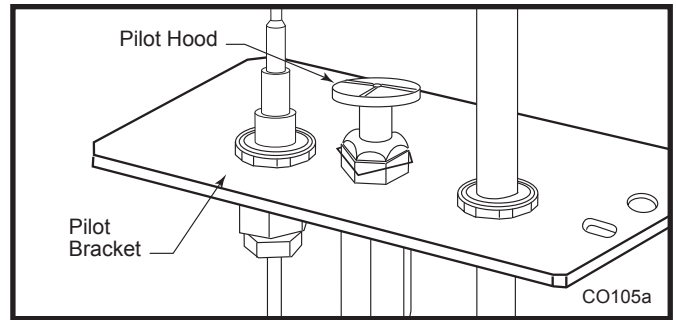

Fig. 57 Remove pilot hood.
16. Install the enclosed conversion label (F) to the valve body where it can easily be seen. (Fig. 57)
- Remove pilot hood by lifting up. (Fig. 57) Do not remove snap ring to remove pilot hood. **NOTE:** It is not necessary to remove the pilot tube for conversion.